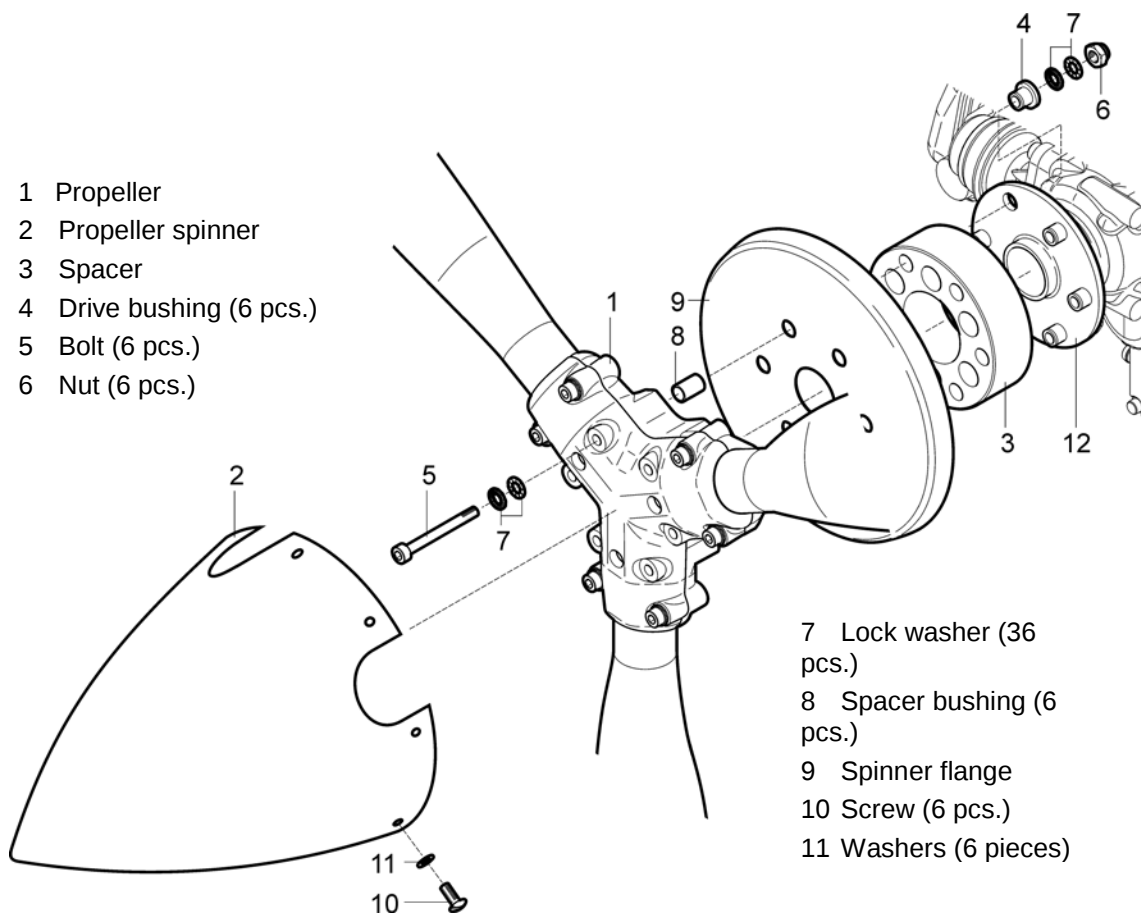

Fig. 10-19: 3B0R5R68C propeller removal / installation
- (b) Unscrew the screws (10, Fig. 10-19) with the washers (11) and remove the propeller spinner (2).
- (c) Unscrew and remove the nuts (6), the washers (7) and take out the propeller (1) along with the spinner flange (9) and spacer (3) from the propeller flange (12).
- (b) Check the contacting areas of the propeller flange (12, Fig. 10-19), propeller (1) and spacer (3). Clear of all impurities.
- (n) Put the propeller spinner (2, Fig. 10-19) on the propeller and attach it with screws (10) and washers (11).